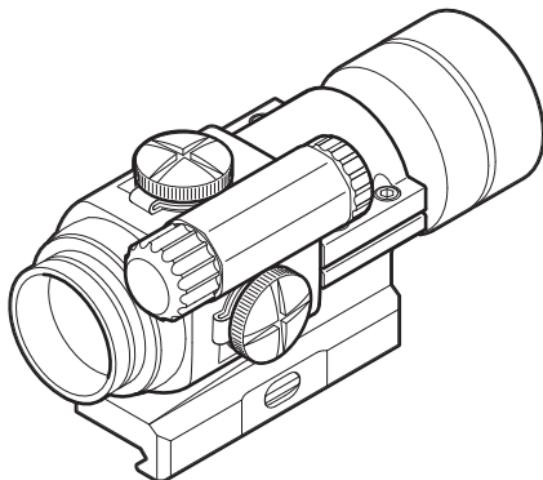
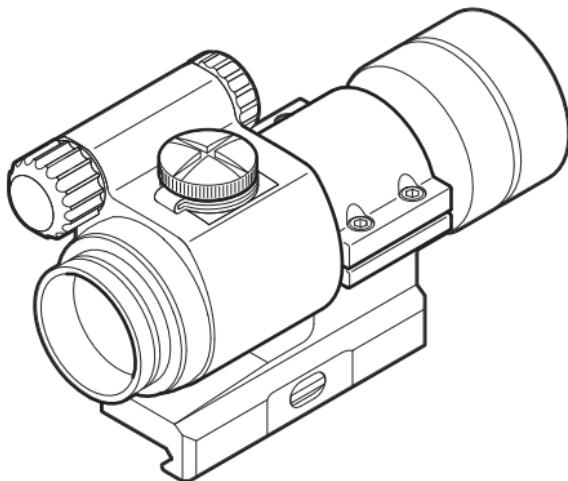

Fig. 6 ➔ 2.2
Fig. 7 ➔ 2.2
- Ensure that the sight is correctly positioned for right-handed (Fig. 6) or left-
handed shooters (Fig. 7). To mount the rubber cover (11) on the CompM3 and CompML3, you must position the sight as shown in Fig. 6.
The elevation adjustment screw is located on top of the sight, while the windage screw is located on the right or left side, depending on how the sight has been mounted on the weapon. Aimpoint sights can be installed to support either right-handed (Fig. 6) or left-handed (Fig.7) shooters. To mount the rubber cover (11) on the CompM3 and CompML3, you must position the sight as shown in Fig. 6.
- a Open front and rear lens cover (10) and (9).
- b Turn the rotary switch (4) clockwise until the red dot has a sufficient intensity to contrast against the target.
- c Remove the windage and elevation adjustment caps (5).